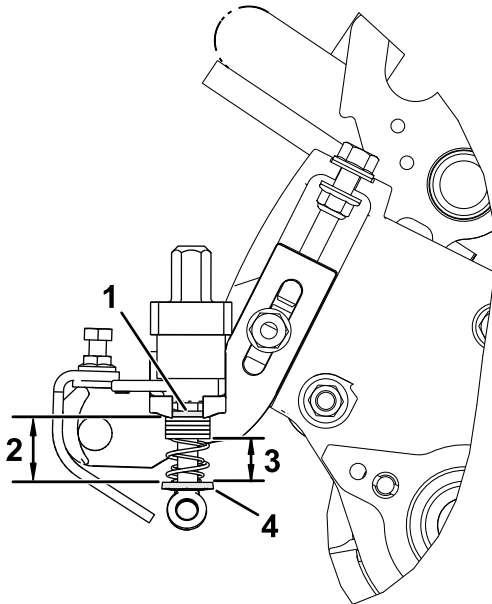

Figure 26
4. Measure the distance between the washers (the current spring length) as shown in Figure 26.